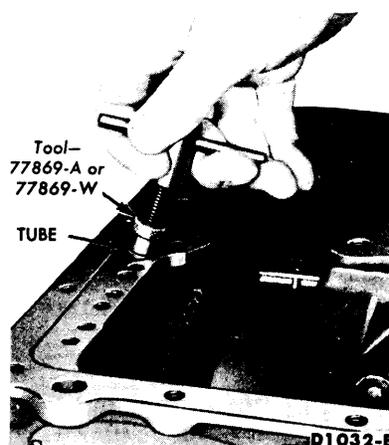

FIG. 4—Rear Pump Discharge Tube Removal
7. Install the tube extractor tool in the rear pump discharge tube (Fig. 4), and remove the tube.